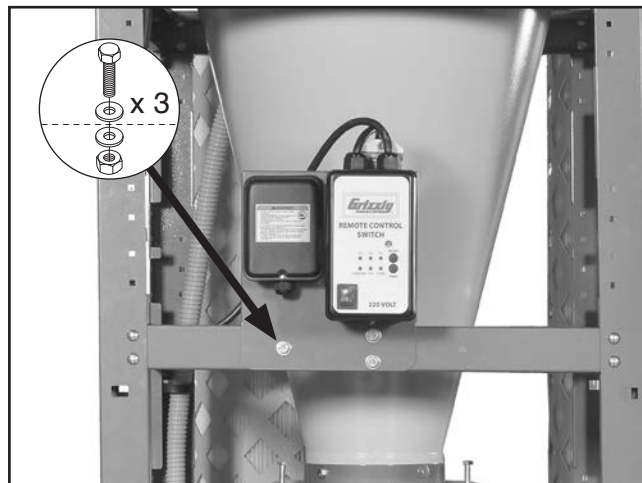

Figure 42. Switch mounted to stand.
44. Mount switch on stand, as shown in **Figure 42**, with (3) $\frac{3}{8}$ "-16 x $\frac{3}{4}$ " hex bolts, (6) $\frac{3}{8}$ " flat washers, and (3) $\frac{3}{8}$ "-16 hex nuts.